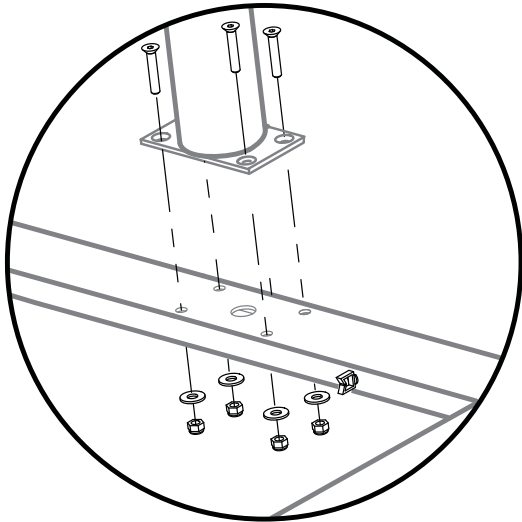

Figure 4
**4-2** Attach the Mast to the base with 4 Hex screws, 4 Washers and 4 Nuts (Figure 4).